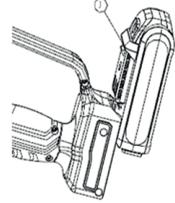

Figure 3
- e) Insert the battery by aligning the particular battery pack # 1 (Figure 3), with the slot at the base of the chainsaw handle and insert it until the battery pack is locked and clicks; to remove the battery, press the red button and, holding it down, slide the battery out of the slot.